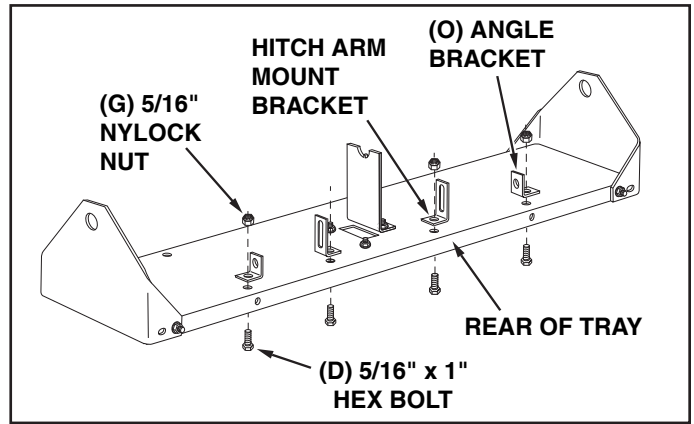

FIGURE 2 REAR VIEW
3. Turn the tray upside down as shown in figure 2 so that the rear of the tray (four holes in the bottom) is facing you. Assemble two hitch arm mount brackets and two angle brackets (O) to the bottom of the tray using four 5/16" x 1" hex bolts (D) and 5/16" nylock nuts (G). **Do not tighten completely.** See figure 2.